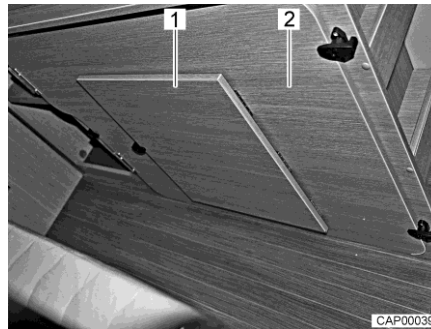

Fig. 50 Removable board on the right-hand bedding box
- Remove additional removable board (Fig. 50,2) from the right-hand bedding box in the rear.
- Fold footrest (Fig. 50,1) out on the removable board.